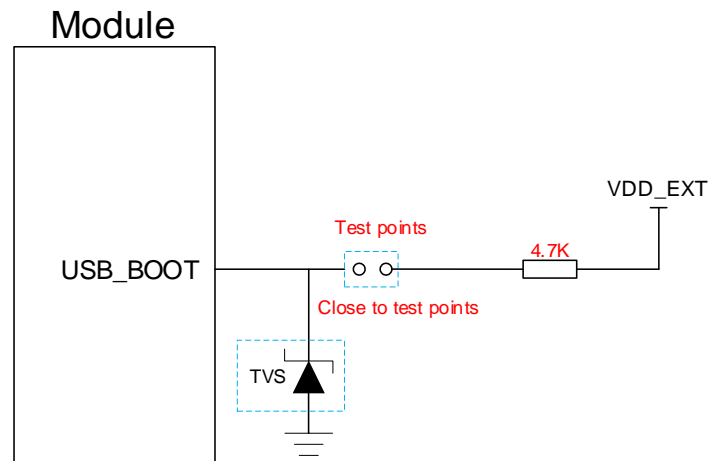

Figure 18: Reference Circuit of USB_BOOT Interface
2. When using MCU to control module to enter the emergency download mode, please follow the above timing sequence. It is not recommended to pull up USB_BOOT to 1.8 V before powering up VBAT. Directly connect the test points as shown in **Figure 18** can manually force the module into download mode.
4.3. (U)SIM Interface